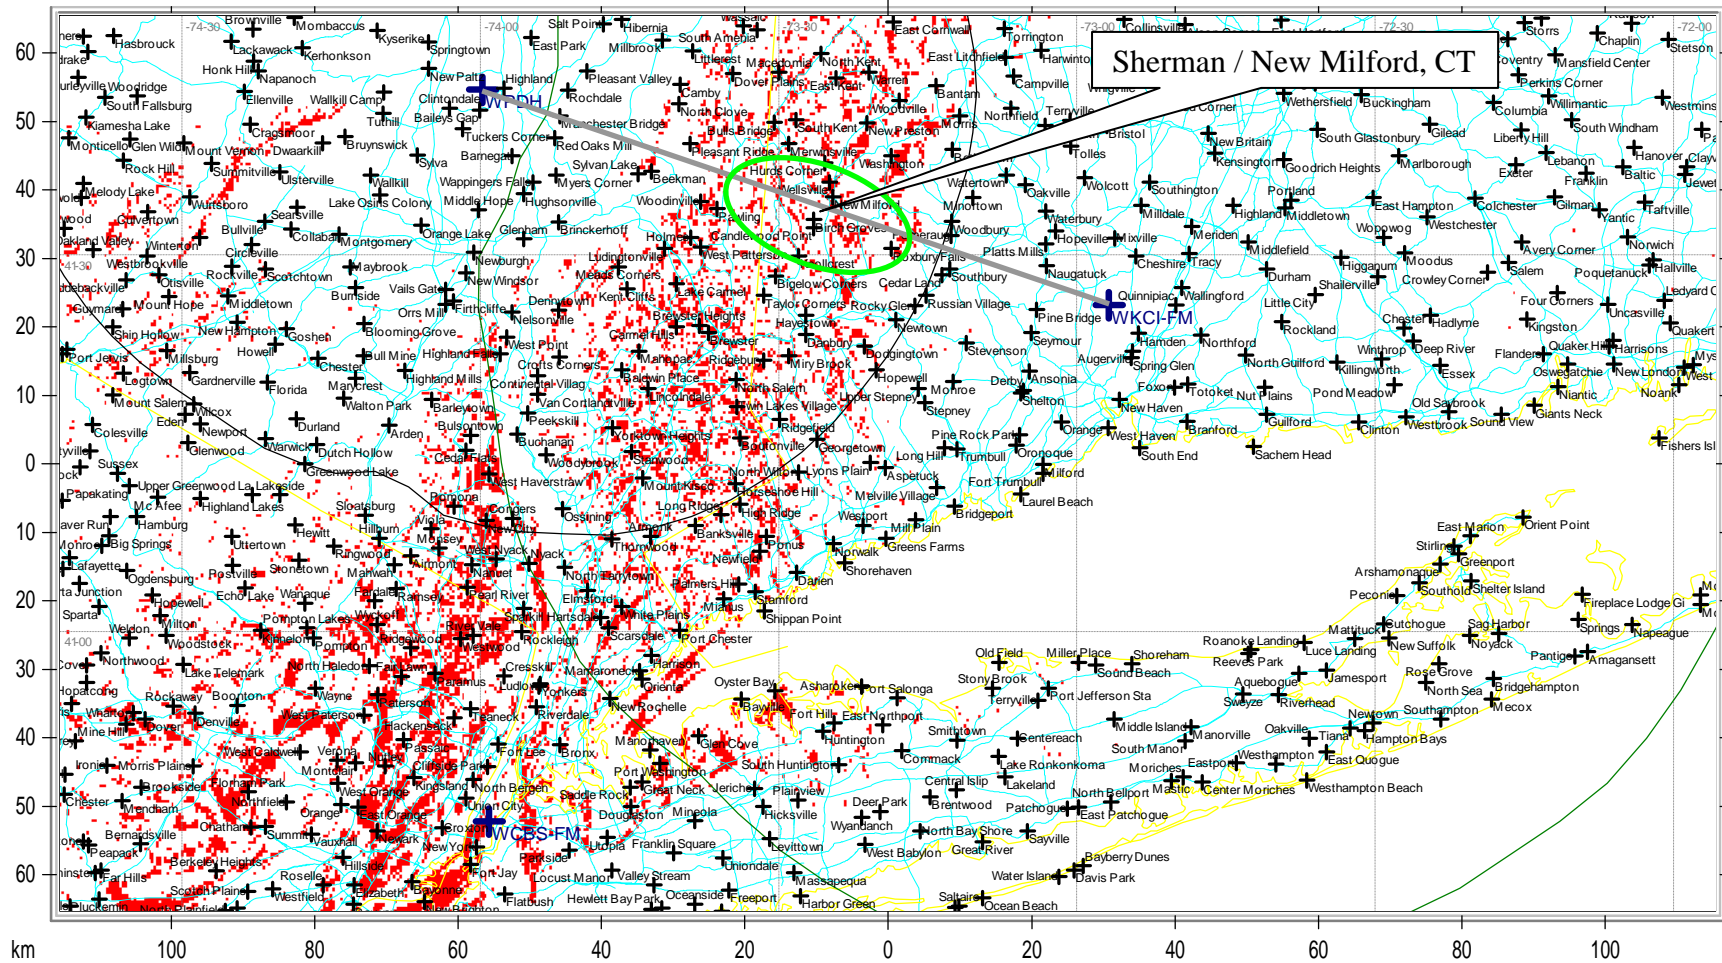

Figure 3 - WKCI / WPDH Compatilby (DU = 0 to +10)
- 6.2.4. Set up radios as shown in Figure 3.